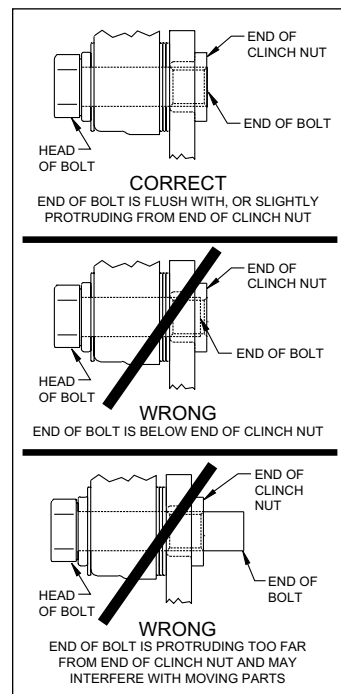
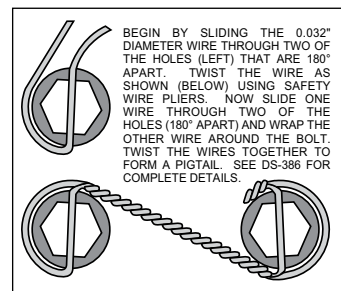

Figure 2. Clinch Nut Engagement Diagram
Figure 3. Safety Wire Diagram
**CAUTION:** All mounting bolts must fully engage clinch nuts. Be sure to check that all bolts are either flush or protruding through flanged side of clinch nut after shimming, Figure 3.
If necessary, place spare shims between washer and caliper mounting ear to achieve the proper clinch nut engagement, as shown in Figure 2. Once the caliper alignment and clinch nut engagement are correct, remove the bolts (5) one at a time, apply red *Loctite*® 271 to the threads, and torque to 40 ft-lb. For an added measure of security, the bolts may be safety wired using standard 0.032 inch diameter stainless steel safety wire as shown in Figure 3. Please refer to Wilwood's data sheet DS-386 (available at [www.wilwood.com/Pdf/DataSheets/ds386.pdf](http://www.wilwood.com/Pdf/DataSheets/ds386.pdf)) for complete safety wire installation instructions.
- Remove the pad clip retainer (9) from the caliper (4). Insert the disc brake pads (8) into the caliper, with the friction material facing the rotor (2). They should install easily without interference. Secure the pads in place with the pad clip retainer.